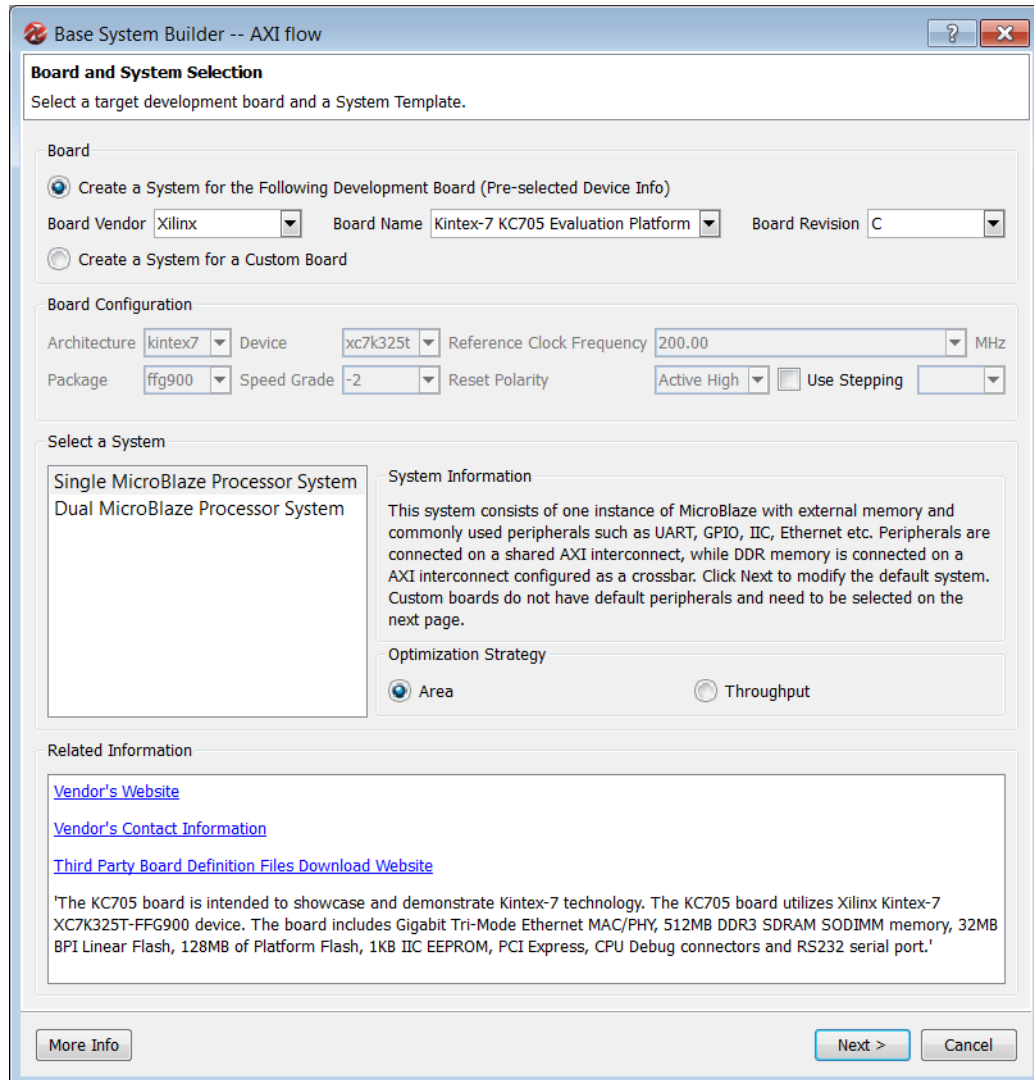

Figure 3-23: Base System Builder Wizard—Board and System Selection Page
3. In the Board and System Selection page (Figure 3-23), define the TDP or platform for the embedded processor design, and click **Next**.